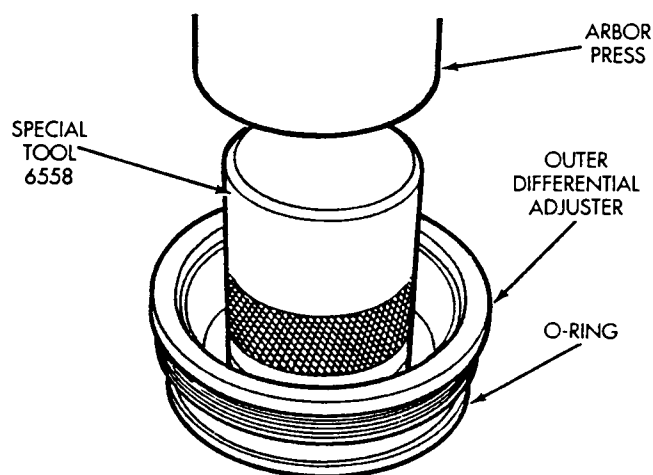

Fig. 6 Seal Removal and Installation
(6) Use special tool 6558 to remove old seal and install new seal (Fig. 6).